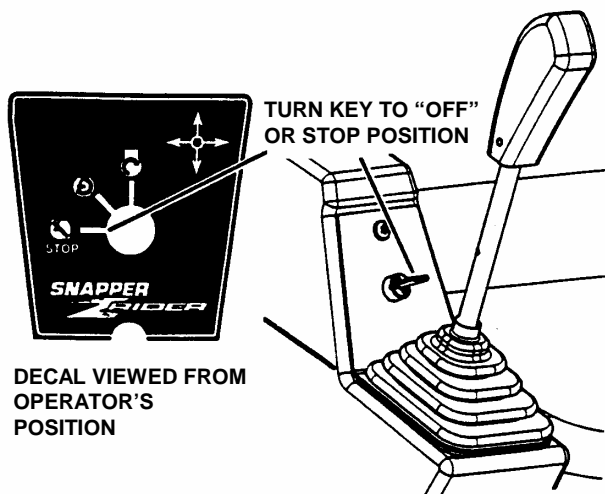

FIGURE 2.8
1. Stop motion of riding mower by moving joystick to neutral (N)0 position. See Figure 2.8.
1. Stop engine by turning key to the "OFF" position. See Figure 2.8.